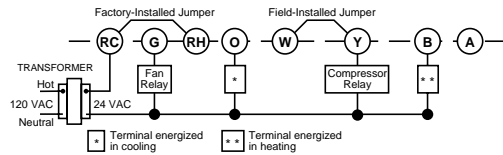

Figure 4. Typical wiring for single transformer, single stage heat pump system
- Electric heat or single stage heat pump systems:** 1F56-306 energizes the fan on call for heat. Other thermostats are configured from the factory to operate a heat/cool, fossil fuel (gas, oil, etc.) forced air system. This is correct for any system that DOES NOT require the thermostat to energize the fan on a call for heat. If your system is an electric heat or heat-pump system that REQUIRES the thermostat to turn on the fan on a call for heat, remove the yellow factory-installed jumper wire from the **Y** terminal and connect it to the **A** terminal. This will allow the thermostat to energize the fan immediately on a call for heat. If you are unsure if the heating system requires the thermostat to control the fan, contact a qualified heating and air conditioning service person. For single stage heat pump applications (no auxiliary heat), install a short jumper wire (not included) across terminals **W** and **Y**. If the system has a reversing valve connection energized in Cooling, attach it to **O**. If the system has a reversing valve connection energized in Heating, attach it to **B** (see Fig. 4). This thermostat will not provide multi-stage heating or cooling.